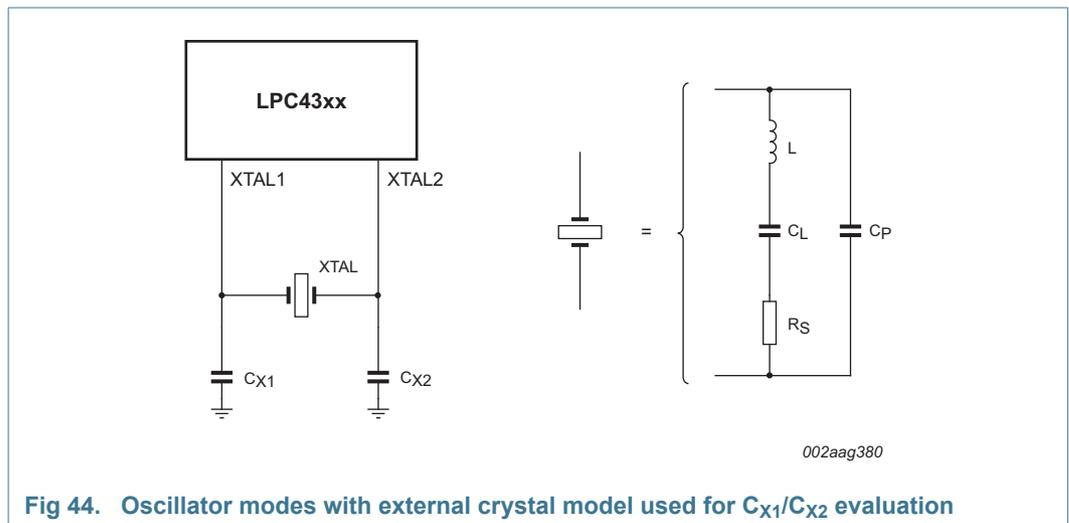

Fig 44. Oscillator modes with external crystal model used for C_{X1}/C_{X2} evaluation
- External components and models used in oscillation mode are shown in Figure 44, and in Table 45 and Table 46. Since the feedback resistance is integrated on chip, only a crystal and the capacitances C_{X1} and C_{X2} need to be connected externally in case of fundamental mode oscillation (L, CL and RS represent the fundamental frequency). Capacitance C_P in Figure 44 represents the parallel package capacitance and must not be larger than 7 pF. Parameters FC, CL, RS and CP are supplied by the crystal manufacturer.